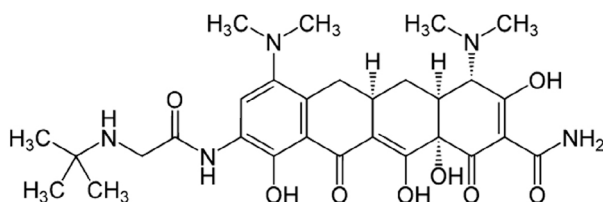

Figure 1. Structure of tigecycline.
Tigecycline (structure shown in Figure 1) is a newly commercially available antibiotic, so few HPLC–ultraviolet (UV) methods have been described for its determination.